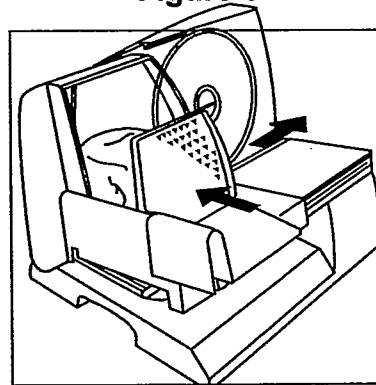

Figure 6
9. Put the food on the feeder and push the food with the Food Press Plate. Slice the food by sliding the Feeder back and forth across the Blade. See Figure 6. To avoid injury, always cut the food with Feeder and Food Press Plate. In case the food shape or size does not allow for the use of the Food Press, it can be removed. However, extra care should be taken during cutting. Once the food is reduced in size, use the Food Press to continue slicing the remainder of the food.